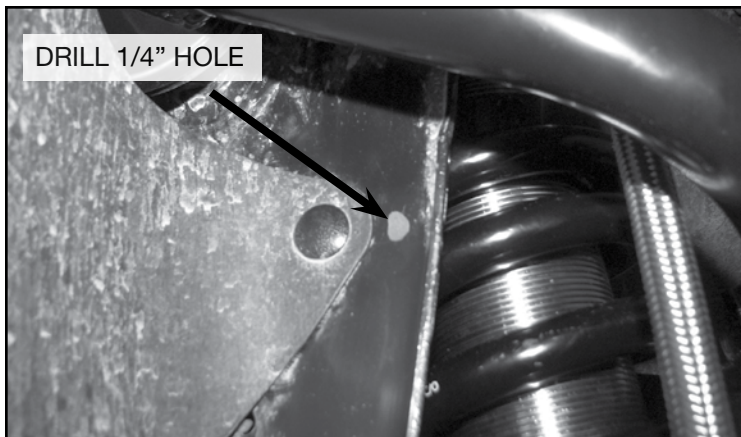
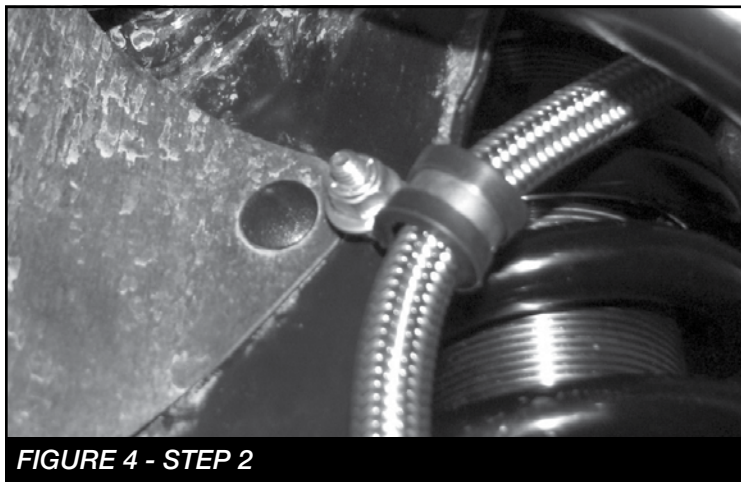

FIGURE 3 - STEP 2
FIGURE 4 - STEP 2
4. Mark and drill a 1/4" hole in the side of the upper coil mount. **SEE FIGURE 3.** Next, mount the hose to the mount using the supplied adel clamp and 1/4" hardware. **NOTE: Use the provided washers to space out the clamp away from the mount due to the bend in the mount. SEE FIGURE 4**